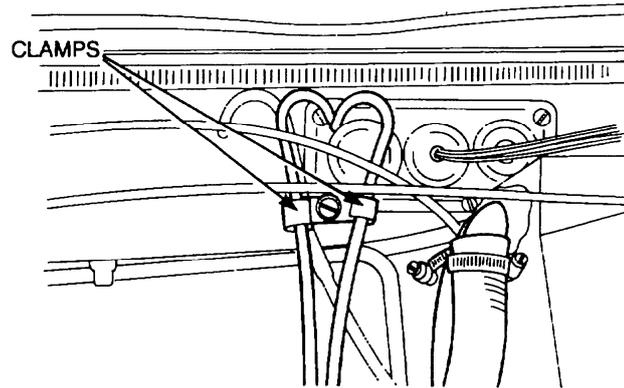

Figure 71 Breather Hose Removal from Firewall
- g. Remove the clamp securing the two hoses to the firewall (Figure 71).